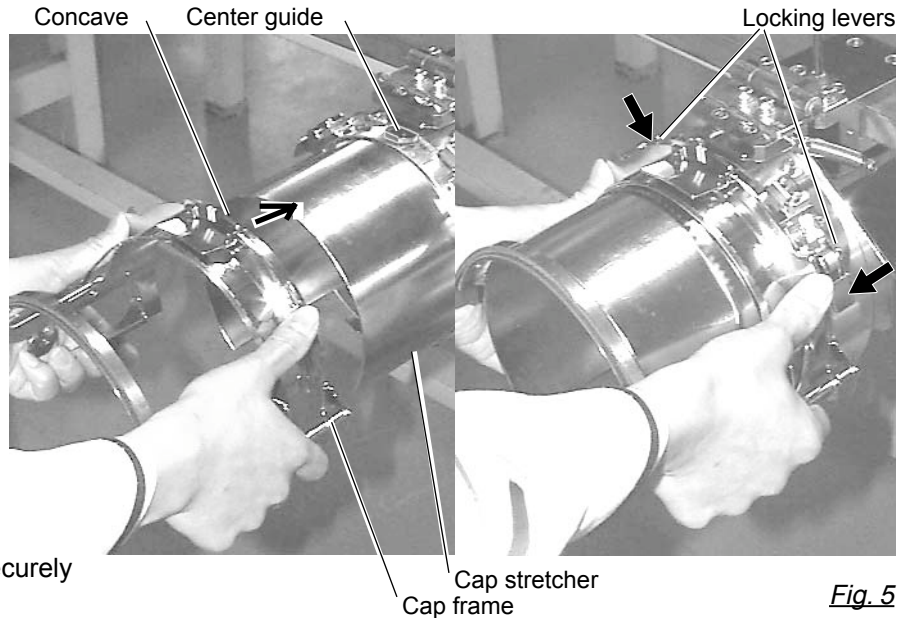

Fig. 5
2. As shown in Fig. 5, hold cap frame with both hands and place on cap stretcher. By pushing locking levers at 2 places with fingers, place cap frame so that center guide of cap stretcher fits in concave area of cap frame.